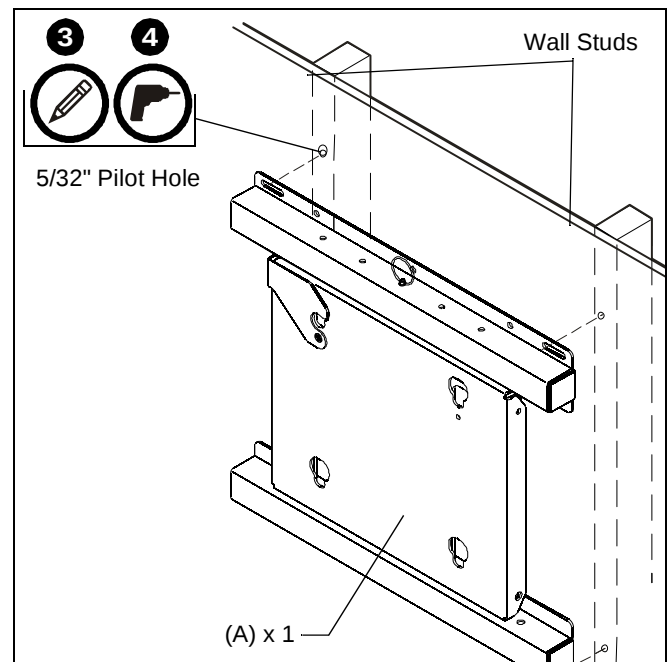

Figure 4
3. Place mount assembly (A) against wall, level mount, and mark four pilot hole locations (See Figure 4).
4. Drill four 5/32" pilot holes at marked locations. (See Figure 4).